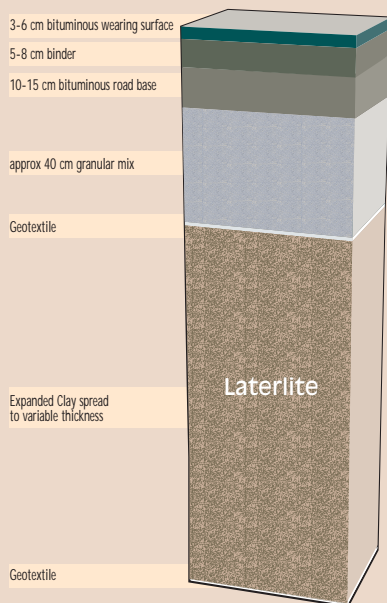

Figure 1: Embankments/fills consisting of expanded clay only (with final capping layers).
1. Embankments/fills consisting of expanded clay only (Figure 1)